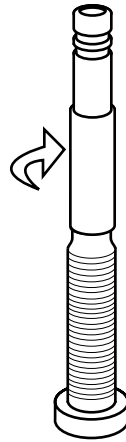

Figure 47. Screw extender clockwise onto valve.
3. Screw the external extender onto the valve by turning clock-wise firmly with fingers. Notice: Do not over tighten as this may damage the extender (Figure 47).